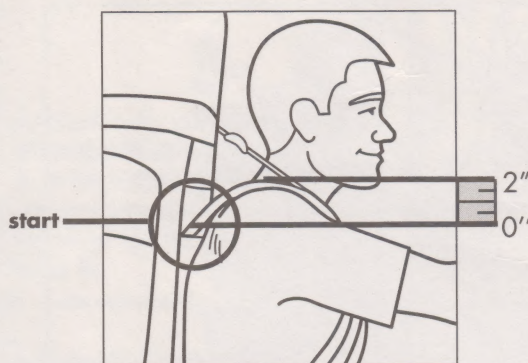
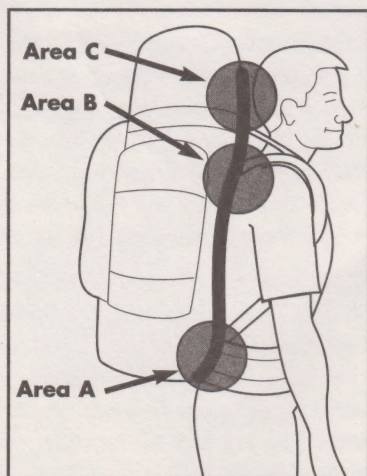

Figure 5
Figure 11
- 3. Once the waistbelt is in the correct position, tighten the shoulder straps.** To tighten shoulder straps pull the webbing at the lower ends of the shoulder strap down & back. The pad of the shoulder strap should start one to two inches below the top of your shoulder (**Figure 5**). (Put a little more load on your shoulders than you want to end up with.) During this operation the load-lifter straps should be kept loose.
7. When the pack fits as seen in Figure 5 (page 4), walk around and notice how the pack feels against your back. The pack should conform to your back as in Figure 11.